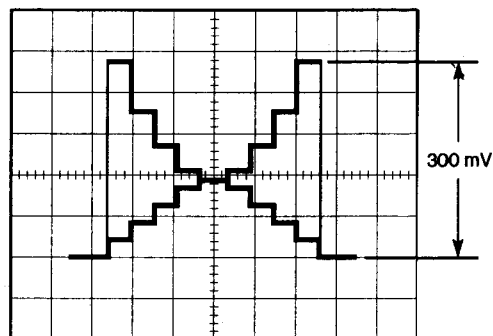

Fig. 5-1-28
- Set the Lens Iris so that the Video signal level becomes 300 mV as shown in Fig. 5-1-28.